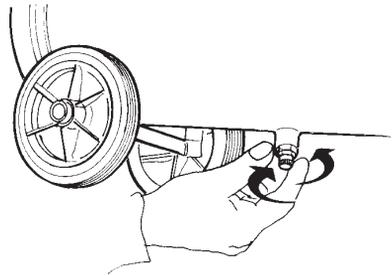

fig. 4
- check the condensation outflow tap (fig. 4);
- Remove the condensation outflow tap if pressure is in the tank (*fig. 4*).
Before carrying out any type of maintenance intervention, unplug the compressor and let the tank pressure out by opening the condensation outflow tap (*fig. 4*); unscrew the tap carefully and let the air out slowly, as metal residues might be in the tank.
Condensation outlet (*fig. 4*)
- empty all the air in the tank (*fig. 4*);
- let all the air out of the tank (*fig. 4*);